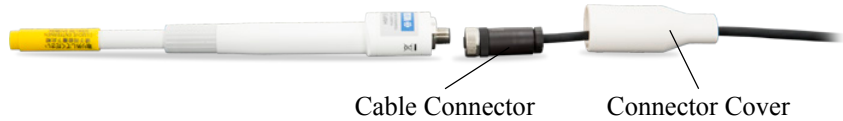

FIGURE 4-2. Cable routed through the connector cover
2. Squeeze the sides of the white connector cover and insert the cable's connector through it (see FIGURE 4-2).